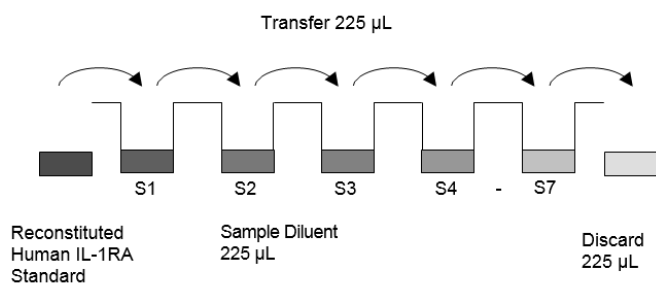

Fig. 7 Dilute standards - tubes.
- Repeat serial dilutions 5 more times thus creating the points of the standard curve (see Figure 7).